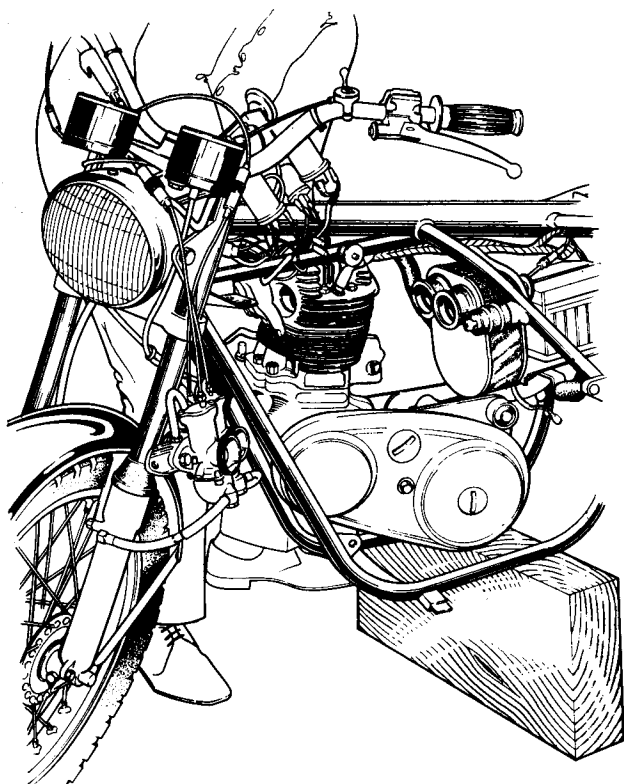

Fig. F2 Lifting out power unit to right side
- 31 As shown in *Fig. F2*, lift the power unit bodily from the frame to the right hand side. Raise the front of the power unit and lower the rear to clear the airbox.